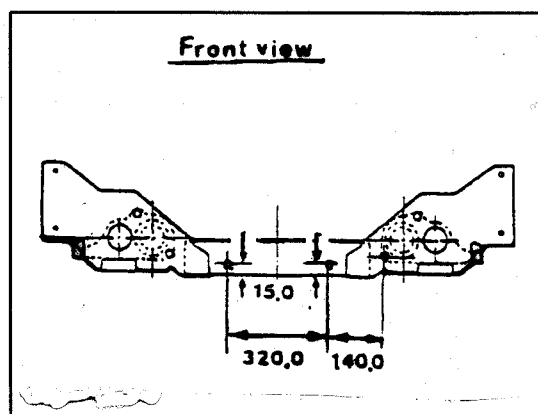

Figure 2
2. Mark both bores to be drilled according to the drawing and measurements given in figure 2.